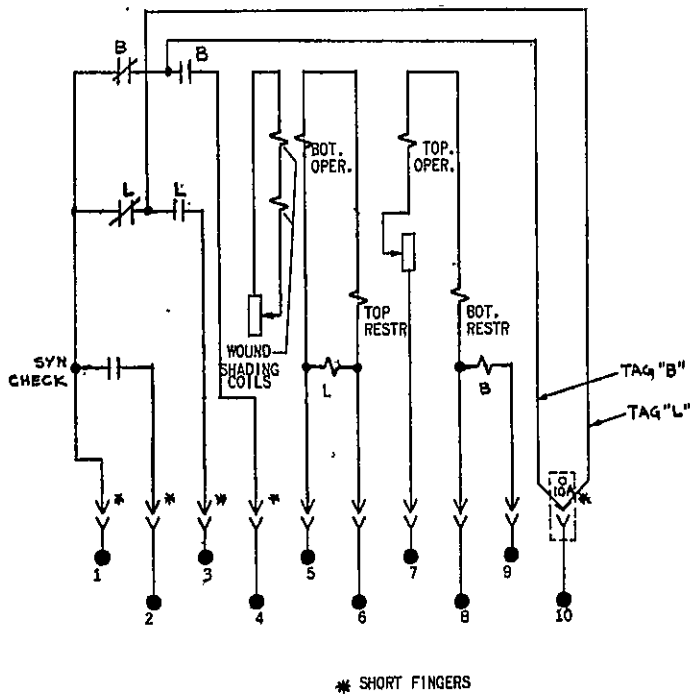
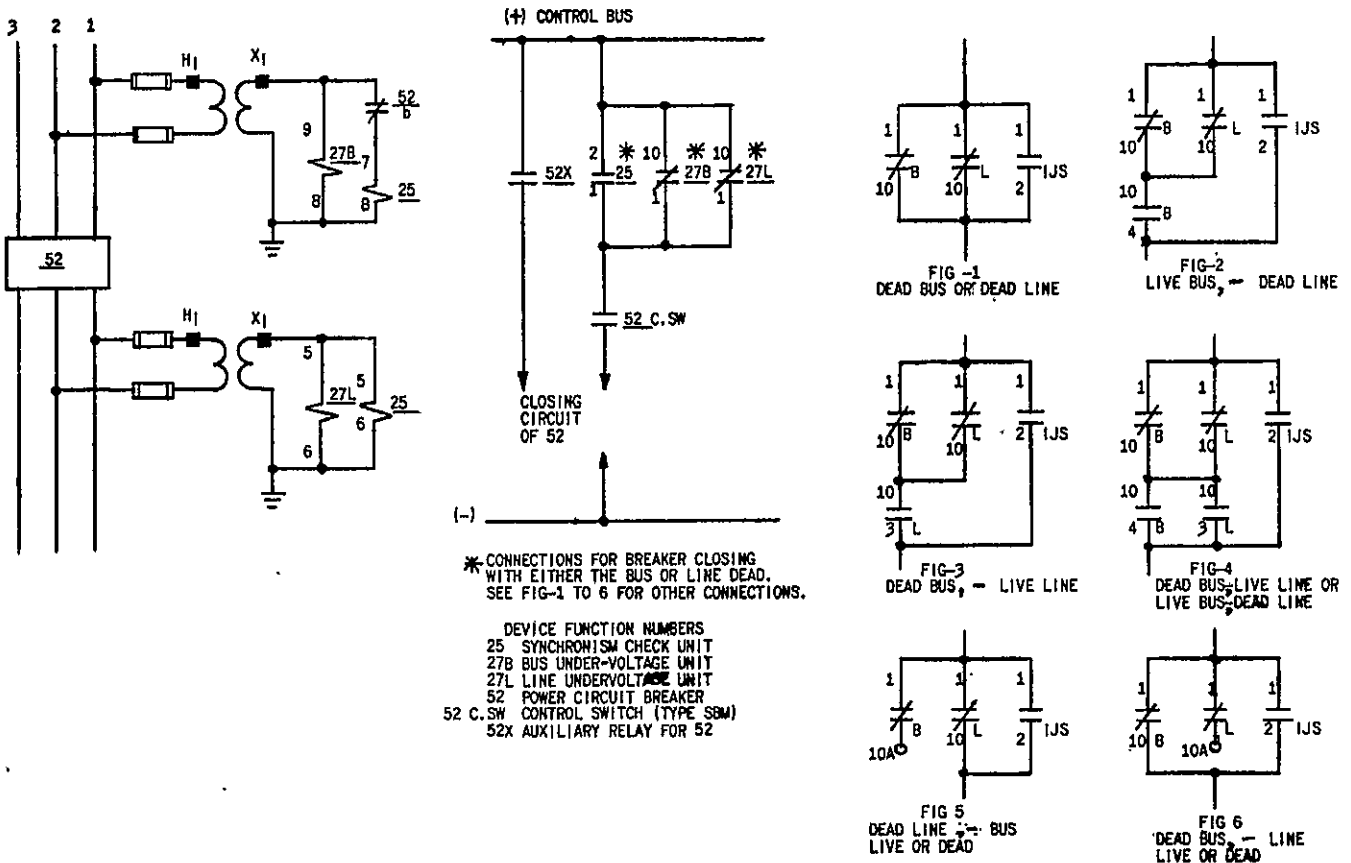

Fig. 7 (0165A6040-2) Internal Connection Diagram for IJS52D Relay
Fig. 9 (026480496-) Elementary Diagram Of External Connections Of The Type IJS Relays
The Type IJS52D relay has two telephone-type undervoltage units. These are designated as "B" and "L" on Fig. 7.
The IJS relay is applicable as a synchronism-check relay to permit closure of a circuit breaker only when the two sources connected to it are correctly synchronized elsewhere. It determines that synchronism is being maintained by other interconnections, and then permits closure of the circuit breaker. See Fig. 9 for typical elementary diagram.
The telephone relays "B" and "L", mentioned above, serve to reclose the breaker under conditions of (1) dead bus or line, (2) live bus, dead line, (3) dead bus, live line, (4) dead bus, live line or live bus, dead line (5) dead line, bus live or dead (6) dead bus, line live or dead depending on the external connections used (see Fig. 9).
Internal connections for the LJS52D are shown in Fig. 7. Note that the connections to terminal 10 are arranged so that the N.C. contact of "B" or "L" can be used separately as shown in the typical external connections in Fig. 9.